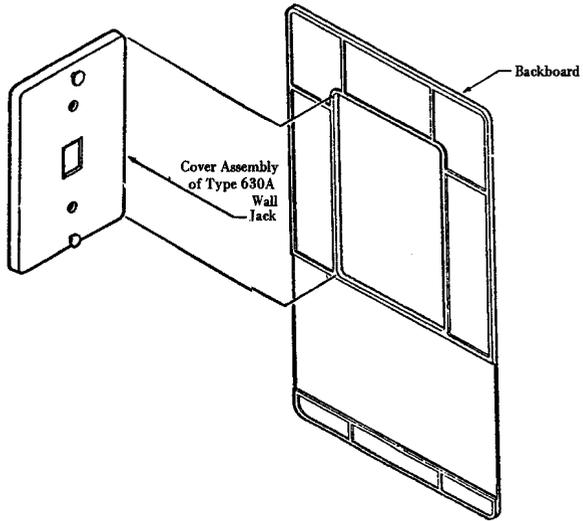

FIGURE 18. Backboard Installation Around a 630A Wall Jack
**3.05 191B Backboard:** This backboard is used to cover an unpainted or damaged area surrounding the wall telephone jack. The backboard fits around the cover plate of the wall jack and is fastened to the wall using self-adhesive tape. See Figure 18.